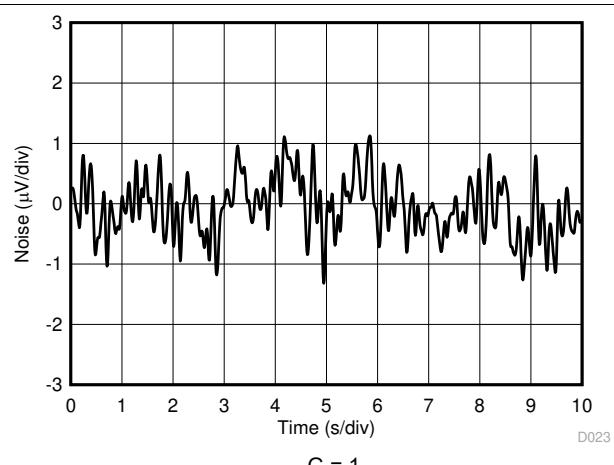

Figure 7-24. 0.1-Hz to 10-Hz RTI Voltage Noise
0.1-Hz to 10-Hz RTI Voltage Noise, $G = 1$	<a href="#">Figure 7-24</a>